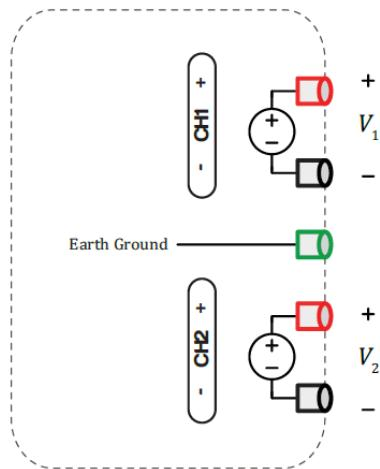

Figure A.10: Simplified diagram of the power supply acting in independent mode.
**⚠️** Notice that the green GND earth connection is physically isolated from the positive and negative output posts and connected to the metal case of the power supply, and to the building earth, as shown in Figure A.10. The circuits you build should not require the use of this terminal.